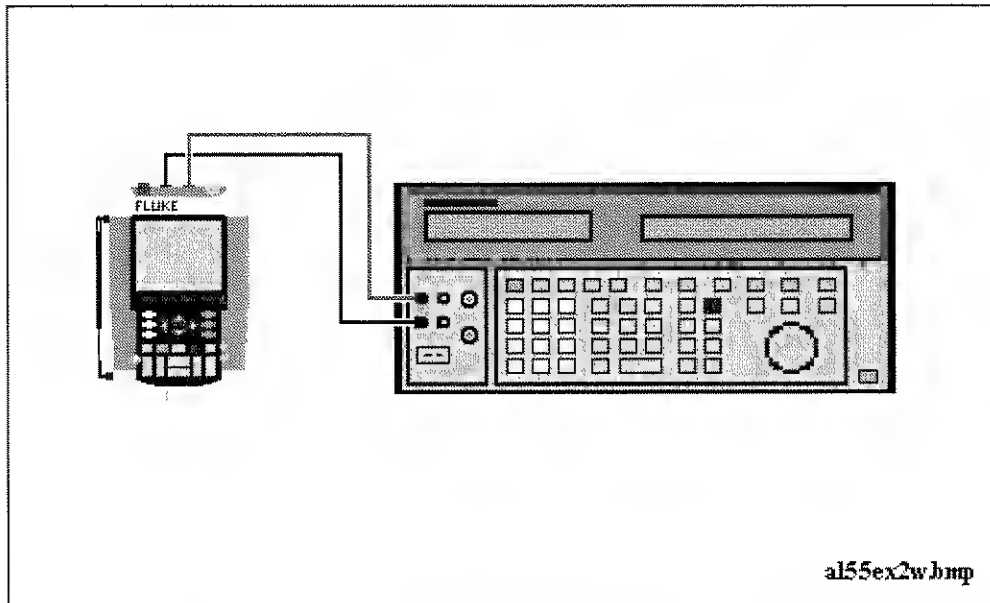

Figure 5-7. 5500A NORMAL Output to Test Tool Banana Input
2. Connect the test tool to the 5500A as shown in Figure 5-7.